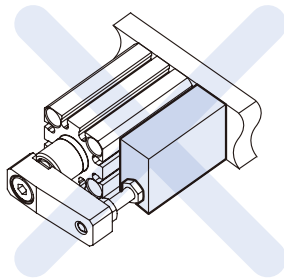

Fig.1
- 1 Make sure to mount the cylinder vertically to the ground. (Fig.1)